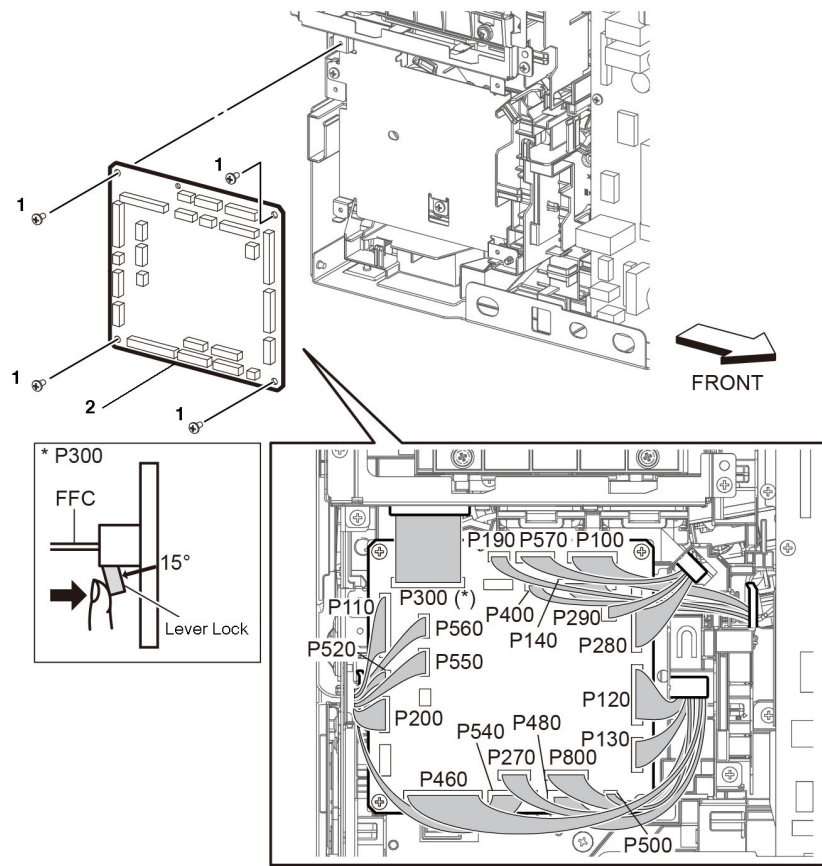

Figure 1 MCU PWB removal
1. Remove the MCU PWB, Figure 1:
- c. Remove four screws (1) securing MCU PWB (2), then remove the MCU PWB.